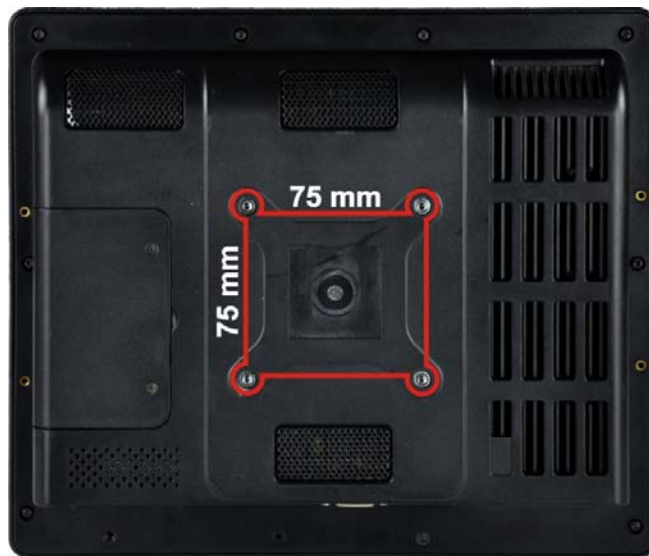

Figure 3-20: Arm Mounting Retention Screw Holes
Step 3: Align the retention screw holes on the mounting arm interface with those in the flat bezel panel PC (**Figure 3-20**).